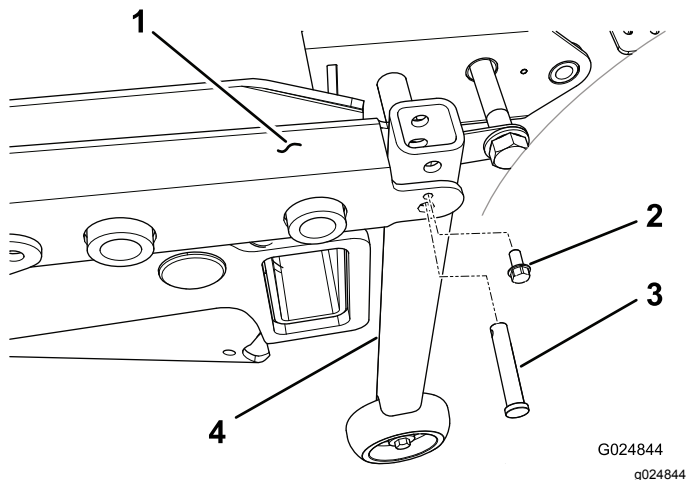

Figure 47
2. On machines that have a serial number prior to 312999999, install the vertical tube support assembly to each rear corner of the deck frame with a clevis pin and a self-tapping screw (1/4 inch) (Figure 47).